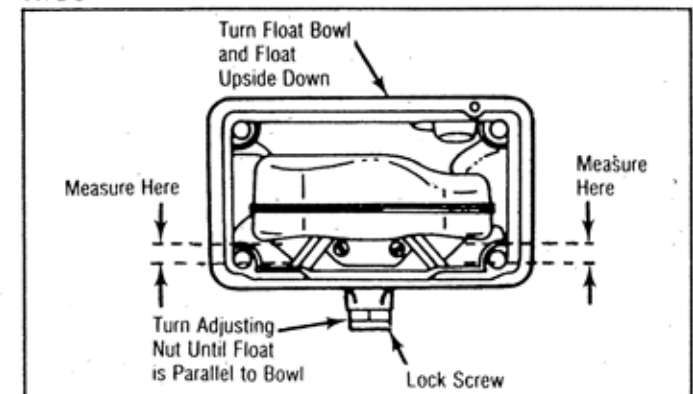

Fig. 4 Float Level Adjustment - Dry Setting
1. Remove and invert float bowl. Float should rest on fuel inlet needle, equidistant from top and bottom of inside surface of float bowl. See Fig. 4.